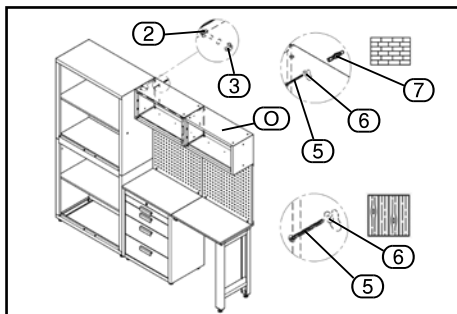

FIG. 10
8.9 INSTALLING THE WALL CABINETS – FIG. 10